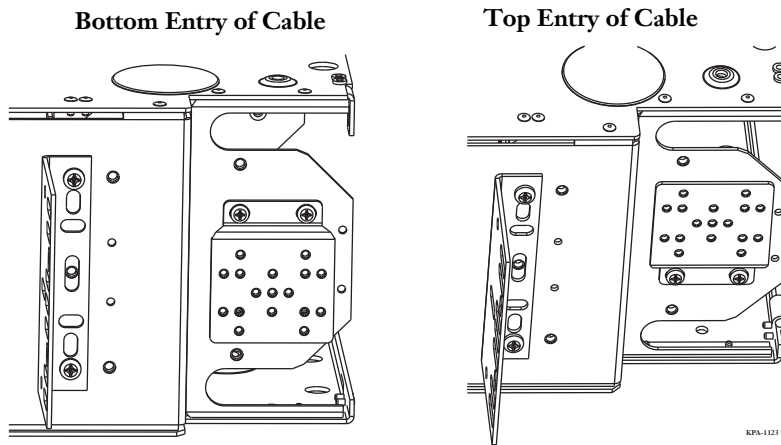

Figure 6 — Bracket Orientation for Cable Entry
**Step 1:** Determine the location for cable entry into the housing and install bracket in the orientation shown for cable entry from that direction (Figure 6).